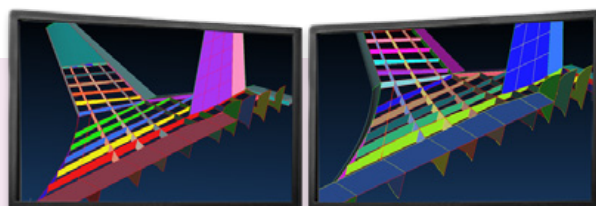

Figure 1 Automatic geometry stitching to make incongruent geometry (on left) congruent with one button click
- ▶ Stitching improvements (see Figure 1);